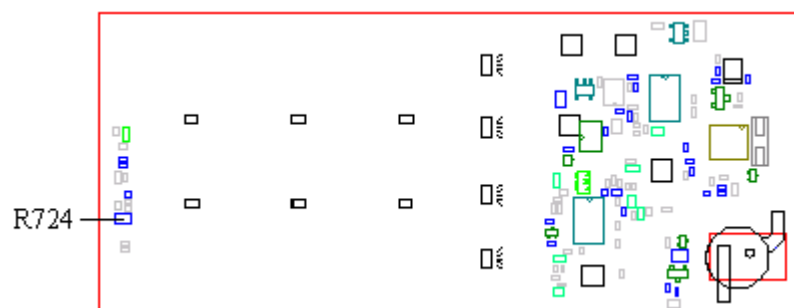

Fig. 6.2
Measure the resistance of R724 (class A, ~47 ohms, fig. 6.2).
- * If the output voltage is correct there can be a foil damage somewhere between N705 pin 3 and R724 or between N705 pin 3 and V700 pin 2 (fig. 6.2 and 6.4). If there's a foil damaged the phone is to be discarded.